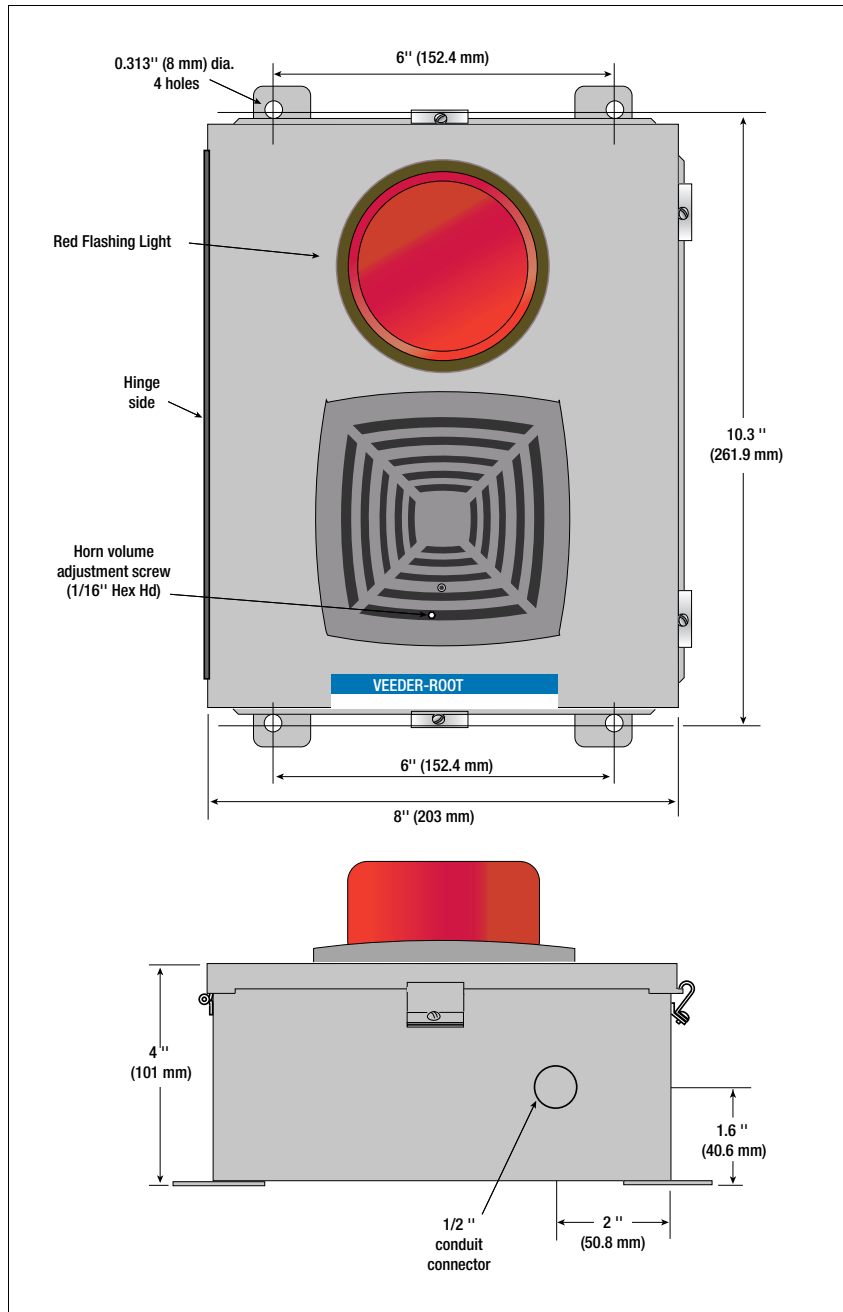
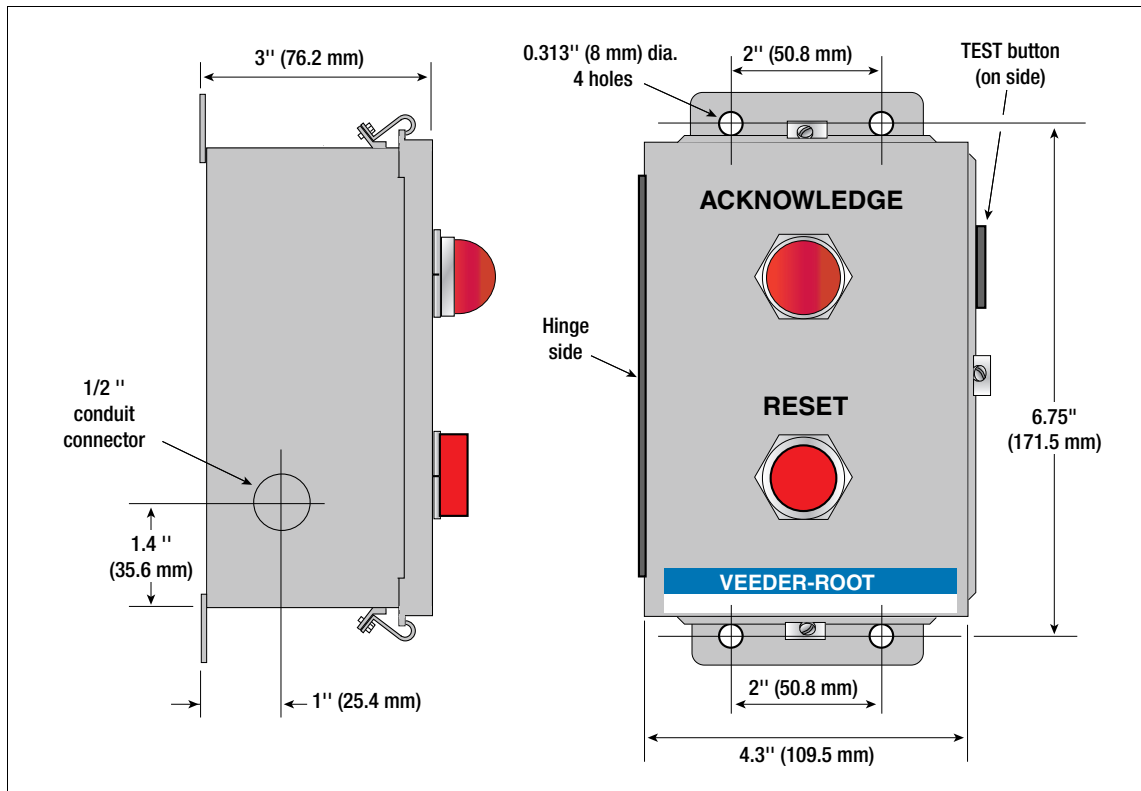

Figure 1. Overfill Alarm Mounting Dimensions
Figure 2. Acknowledgment Switch Mounting Dimensions
- Figure 1. Overfill Alarm Mounting Dimensions 4
- Figure 2. Acknowledgment Switch Mounting Dimensions 5
Figure 1 shows the Overfill Alarm mounting dimensions and Figure 2 shows the Acknowledgment Switch mounting dimensions.
2. Locate and mark mounting holes using the hole pattern in Figure 1.
2. Locate and mark mounting holes using the hole pattern in Figure 2.
1. Locate the adjustment set screw (1/16" Hex wrench) on the exterior of the Overfill Alarm's horn cover (see Figure 1 on page 4).